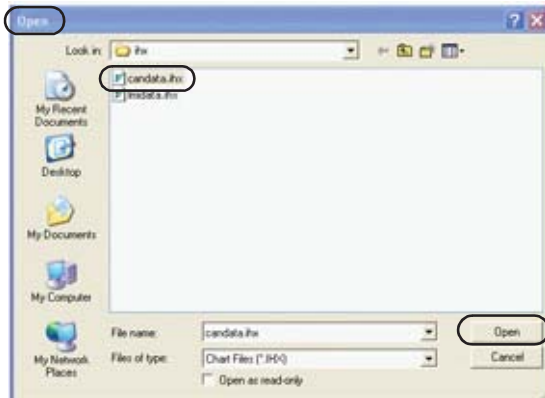

FIGURE 33
- Locate on **Open** screen and click on **candata.ihx** icon to select file (see Figure 33). Click on **Open** button to open file. Rated capacity charts will now begin to load.